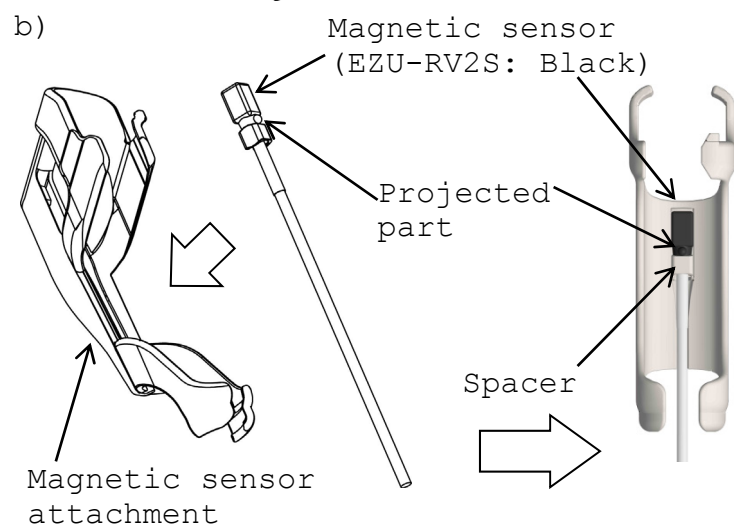

Fig. 9 How to attach the Magnetic sensor
b) Insert Magnetic sensor into the Magnetic sensor attachment with the correct direction as shown in Fig. 9.